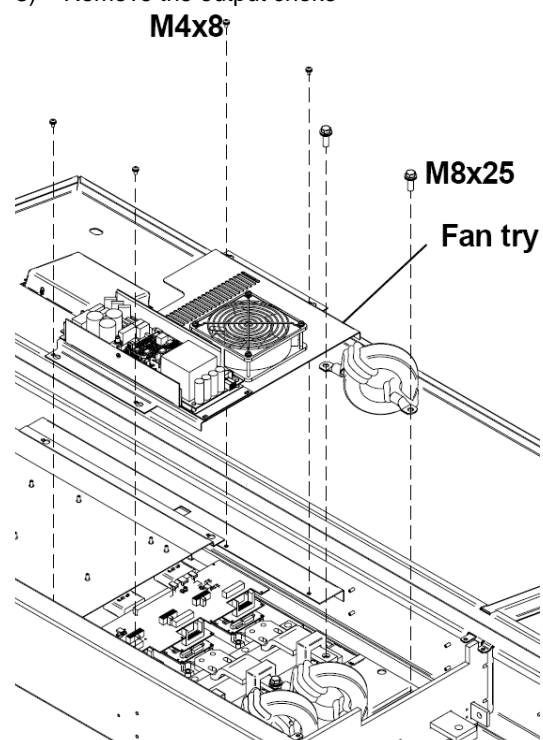

Figure 4.11. Disassembly of the output choke
- 1) Insert the output choke as it is shown in figure 4.11.